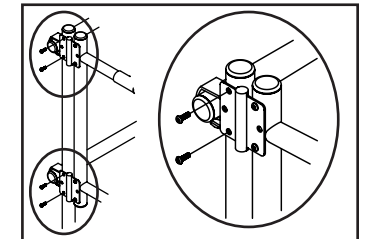

FIG. 8
- b. Install both hinges of the hinged piece to the left hand corner post (Fig. 8)